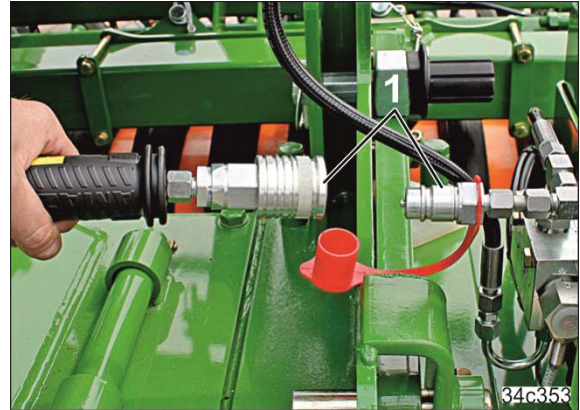

Fig. 136
8. Disconnect the hydraulic lines (Fig. 136/1) (only when the track markers are attached on the soil tillage implement).